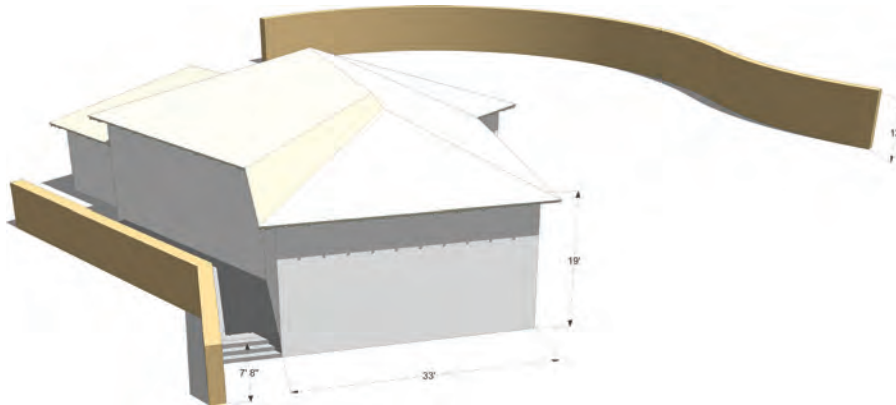

Fig. 15-17: Extrude the house, steps and walls with Push/Pull.
- Using the basic dimensions given in the diagram, extrude the house, steps, and walls with Push/Pull (Fig. 15-17).